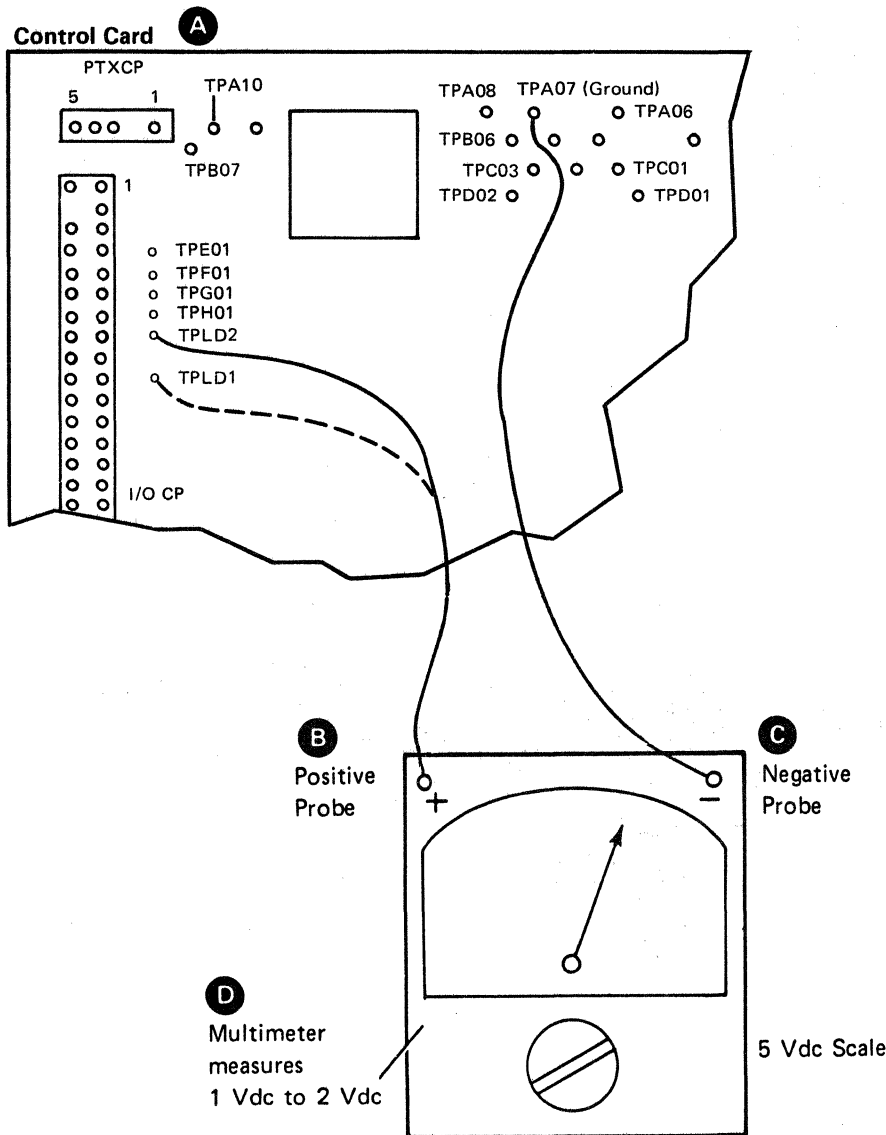

Figure E-36. LED Output Check
E.3.6.2 LED Output Service Check (Figure E-36)